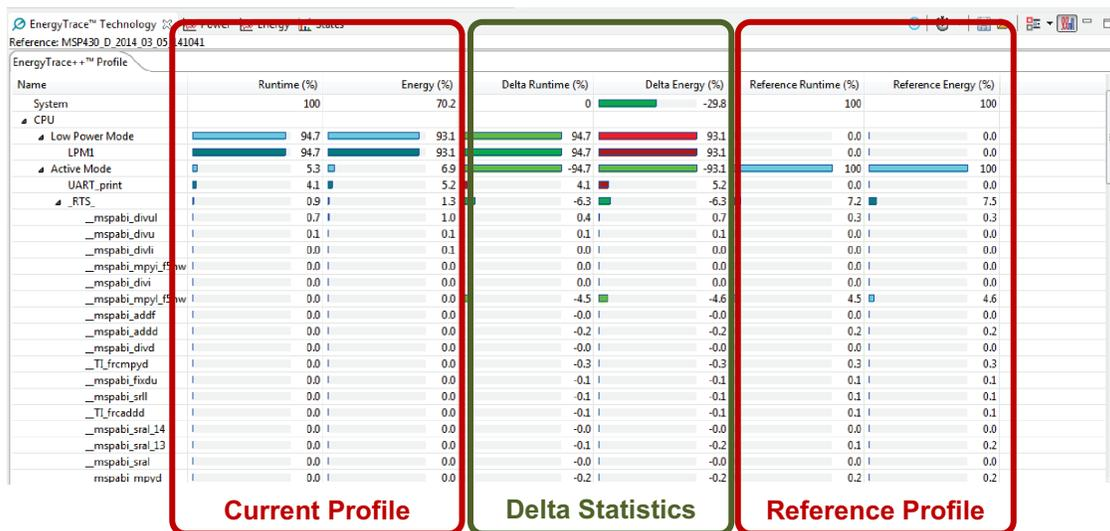

Figure 16. “Efficient.c” Referenced With “Inefficient.c”
- Now you can directly compare the original code with the improved code (see Figure 16).